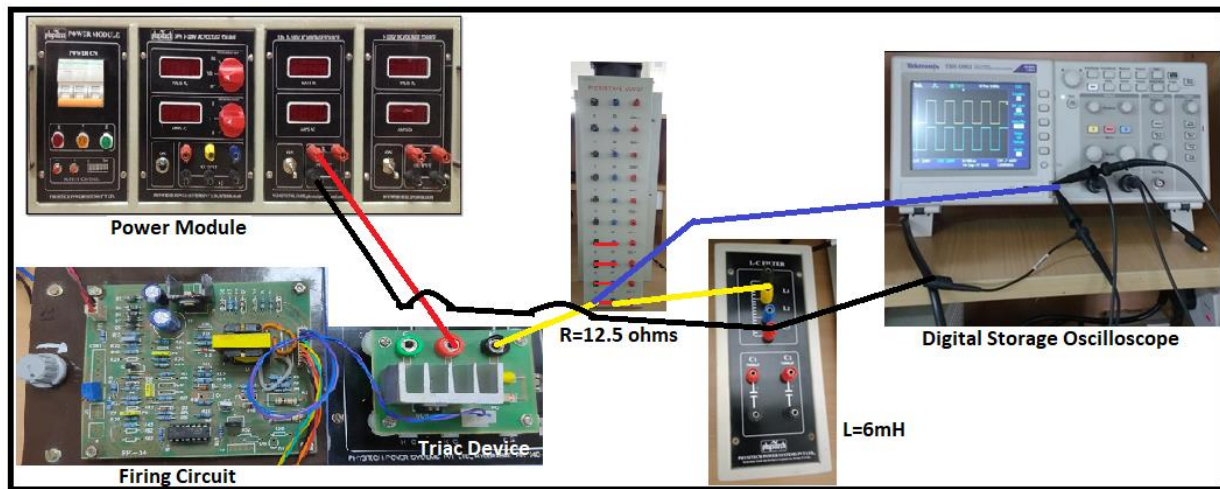

Fig. 4
1. Connect the circuit as shown in the Fig.4 (with RL load ($R=12.5\text{ ohms}$, $L = 6\text{mH}$))